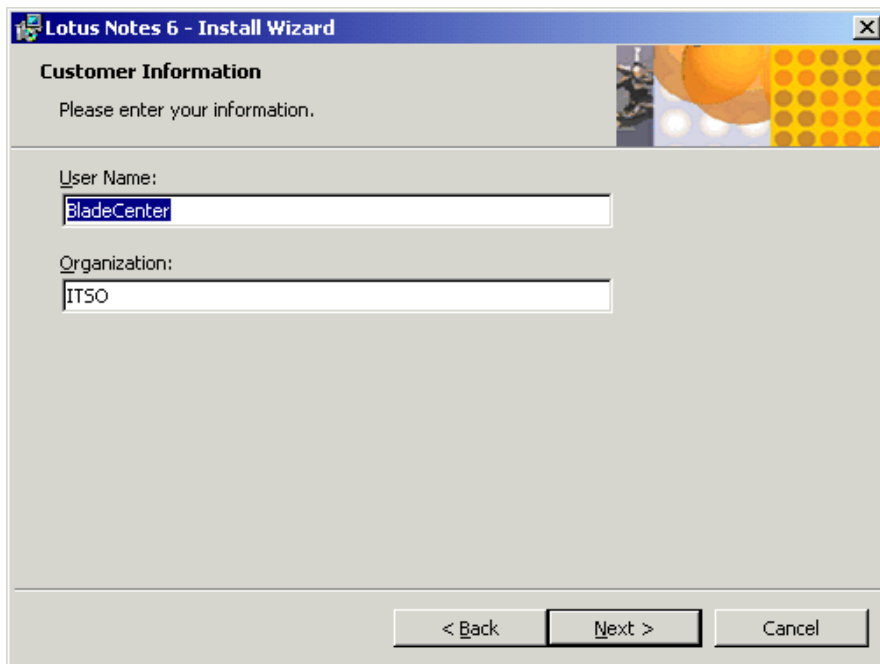

Figure 4-10 Customer Information window
2. Click **Next**. Read and accept the agreement. Click **Next**. You will see a window similar to Figure 4-10.